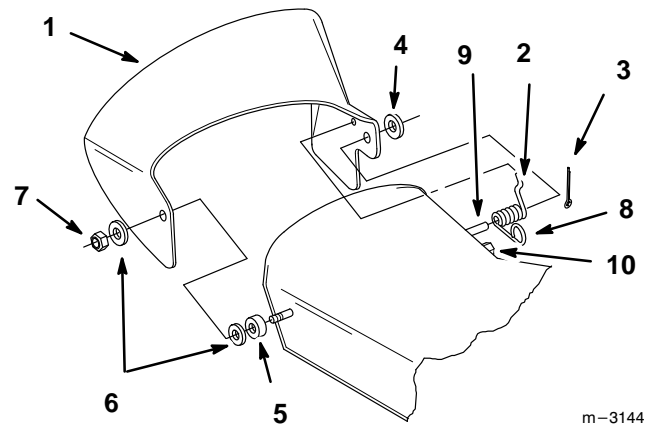

Figure 1
1. Locate the items shown (Fig. 1).
3. Position the spring and discharge chute over the post on the rear of the deck and secure them with a 1/2" (13 mm) washer and a 3/4" (19 mm) cotter pin (Fig. 1).
6. Place the discharge chute over the stud and secure it with a second nylon washer and 3/8" lock nut (Fig. 1). The lock nut must be tightened flush with the end of the stud.